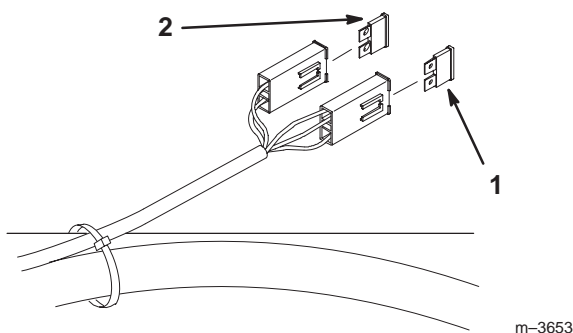

Figure 56
1. Raise the seat to gain access to fuse holder (Fig. 56).
2. To replace fuses pull out on the fuse to remove it (Fig. 56).